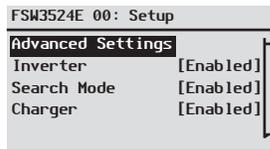

Figure 25 Selecting Advanced Settings From the Device Setup Screen
1. On the **FSW3524E 00: Setup** screen (Figure 25), press the **Enter**, Up arrow, Down arrow buttons simultaneously to make Advanced Settings appear in the list.